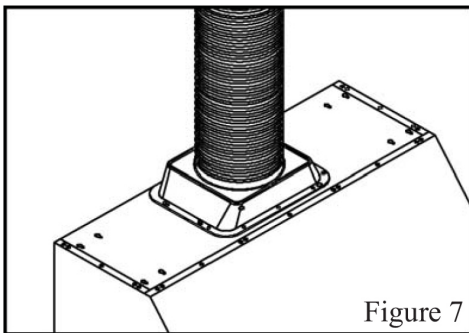

Figure 7
3. Use 8" round steel pipe (follow building codes in your area) to connect the exhaust on the hood to the ductwork above. Use silver tape or duct tape to make all joints secure and air tight. Refer to Figure 7.